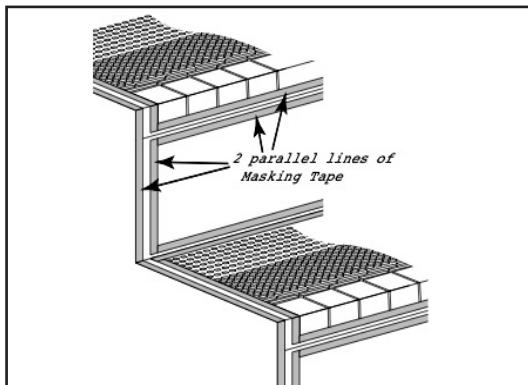

Fig. 11
- The 3mm wide flat area in the embossing may also be sealed using Henkel Teroson MS939NA or equivalent edge sealer. Please two parallel lines of masking tape on each side of seam area. Smooth the edge sealer with a spatula or similar tool. See Fig. 11, 12 & 13.
- Place two parallel lines of masking tape around the entire edge of the Takiron Stair Treads, Riser and Landing Sheet. The inside tape line should be on the tread paralleling the tread edge. The second tape line should be on the substrate paralleling the tread edge. The gap between the two masking tape lines should be 5mm wide (approximately 3/16"). Apply a bead of Henkel Teroson MS 939NA or equivalent edge sealer and smooth with a spatula or similar tool so that edge sealer is 5mm wide (approximately 3/16"). See Fig. 11, 12 & 13 on Page 6.